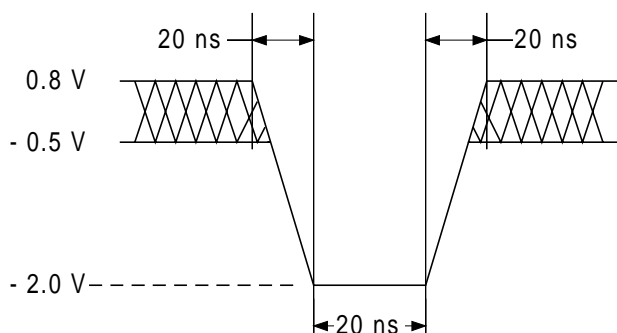
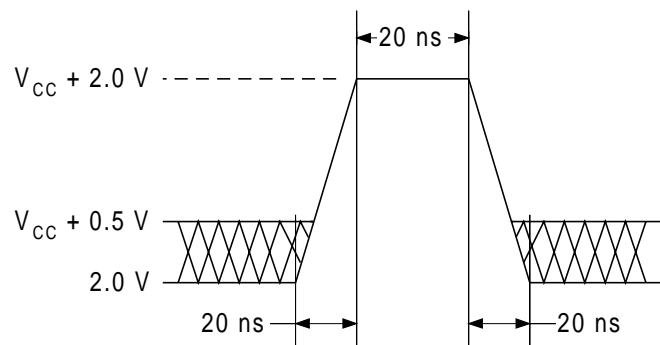

Figure 9. Maximum Undershoot Waveform
Figure 10. Maximum Overshoot Waveform
1. Minimum DC voltage on input or I/O pins is -0.5 V. During voltage transitions, input or I/O pins may undershoot V_{SS} to -2.0V for periods of up to 20 ns. See Figure 9. Maximum DC voltage on input or I/O pins is V_{CC} + 0.5 V. During voltage transitions, input or I/O pins may overshoot to V_{CC} + 2.0 V for periods up to 20 ns. See Figure 10.
2. Minimum DC input voltage on pins A[9], OE#, and RESET# is -0.5 V. During voltage transitions, A[9], OE#, and RESET# may undershoot V_{SS} to -2.0 V for periods of up to 20 ns. See Figure 9. Maximum DC input voltage on these pins is +12.5 V which may overshoot to 14.0 V for periods up to 20 ns.